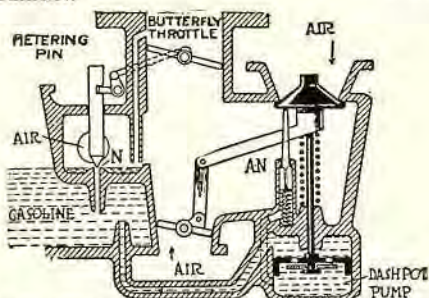

Fig. 24. The Rayfield carburetor principle with "metering pin" connected with the throttle and "dash pot," with auxiliary air intake.
The Rayfield uses a "metering pin," which is lifted as the throttle opens in the main jet (N) (Fig. 24), through a link arrangement, which establishes a right for it to be classified as a metering pin type. But it goes farther. It incorporates an auxiliary nozzle (AN) which also has a metering pin that is depressed when the auxiliary air valve opens. Thus, by having two distinct nozzles it establishes its right also to be classified as an expanding type of instrument.